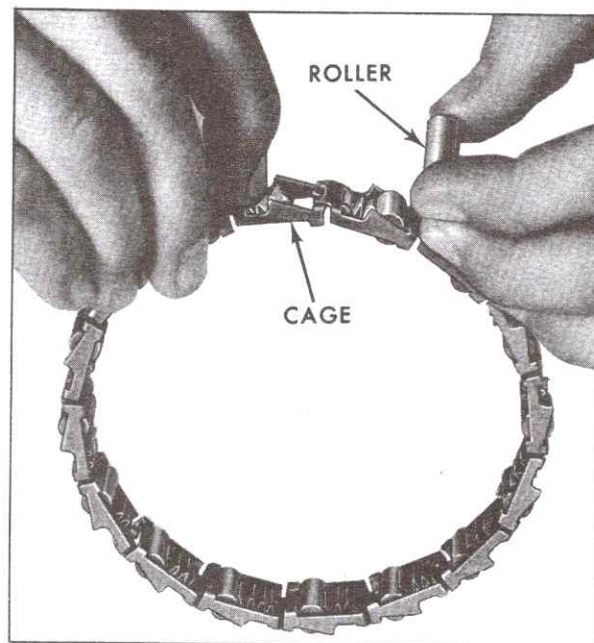

Fig. 7-87 Installing Roller in Roller Clutch Cage
17. Install rollers that may have come out of roller clutch cage, by compressing energizing spring with forefinger and inserting roller from outer side, Fig. 7-87.